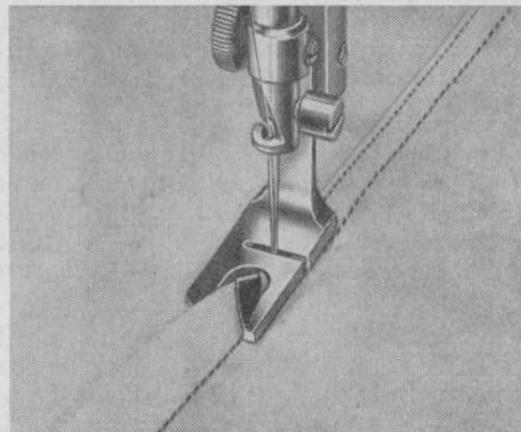

FIG. 42
4. Fold over the edges to the left and insert them into the scroll of the hemmer foot. Sew as you would do ordinary hemming. Use left edge of long toe of hemmer foot as guide, having original seam run alongside of it. (Fig. 42.)